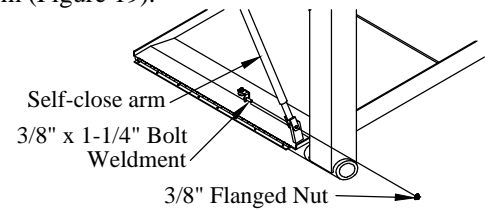

Figure 19: Self-close arm parts.
7. **Remove** the 3/8" x 1-1/4" bolt weldment that holds the self-closing arm to the platform (Figure 19).